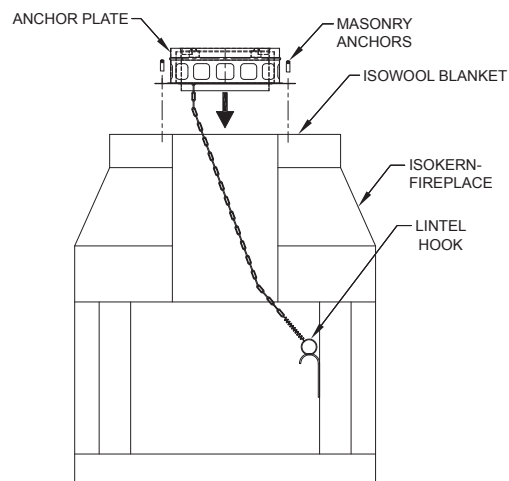

FIG. 1
It is important that the surface of the Isokern chimney has a level surface on which to attach the Anchor Plate. If the top of the Isokern does not have a level surface, then it will need to be modified accordingly. Center the Isowool blanket over Isokern Top Plate hole and trace outline of hole with a pen or marker. Cut a hole in the blanket to match the hole in the Isokern top plate. Center the Isowool blanket over the Isokern Top Plate flue opening, then center anchor plate over the Isowool blanket. If a Damper is used, make sure nothing interferes with the damper plate movement. Secure the Anchor Plate with four (4) masonry anchors. See **FIG.1**. If the Anchor Plate with Damper is installed the damper should swing freely. When the chain is pulled down, the damper should close (horizontal position). When the chain is released (no weight on the chain), the damper should swing open (vertical position). To install the lintel hook, place the damper plate in the closed (horizontal) position. Determine and mark the position of the lintel hook. The lintel hook should be mounted in a position so as to provide a small amount of tension in the spring attached to the chain. See **FIG. 1**. The tension is needed to prevent the damper plate from rattling when closed. Mount the lintel hook to masonry with the screws provided. Do not obstruct openings in the anchor plate.